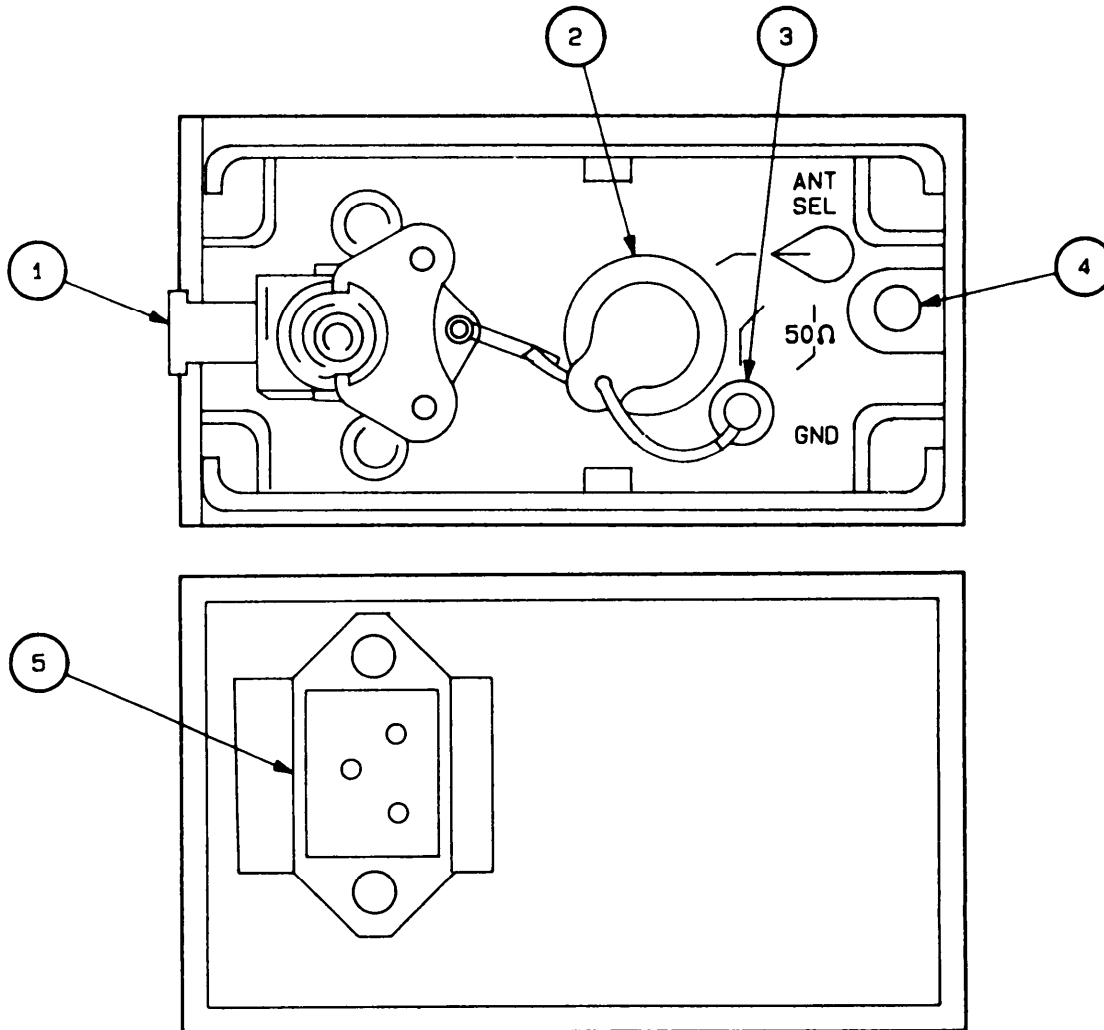

Figure 3-4. Amplifier/Coupler Connectors
**AMPLIFIER/COUPLER CONNECTORS, fig 3-4**